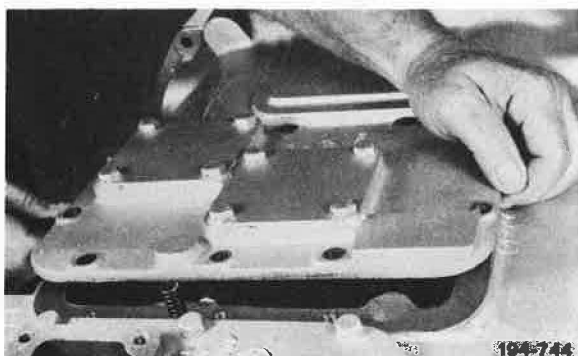

Figure 13. Removing Cover
9. Remove front compound top cover. See Figure 13.